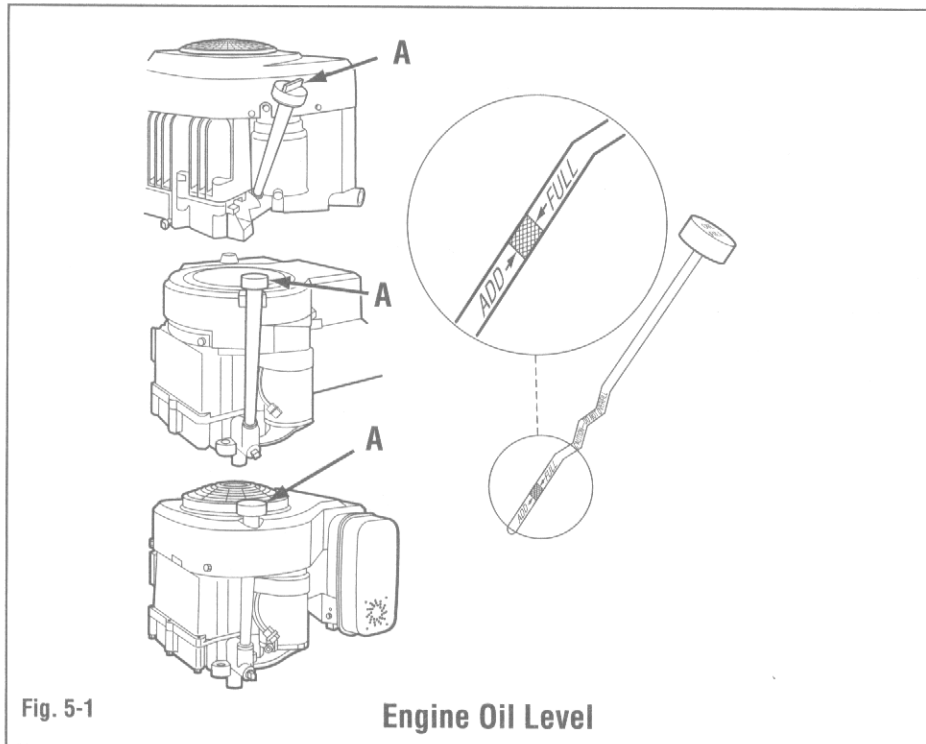

Fig. 5-1
- 0 a. Remove oil dipstick (A, Fig. 5-1). Wipe oil from dipstick with clean cloth.
- 0 c. Remove dipstick and check oil level. Oil level is indicated by marks on dipstick. Level should be between "Full" and "Add" marks (Fig. 5-1).